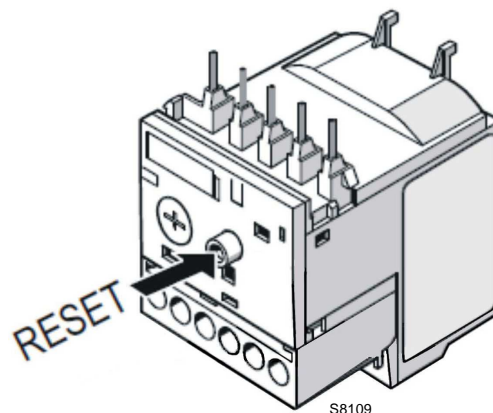

Fig. 38
- To reset, in the case of an intervention of the thermal relay, press the button "RESET" (Fig. 38).